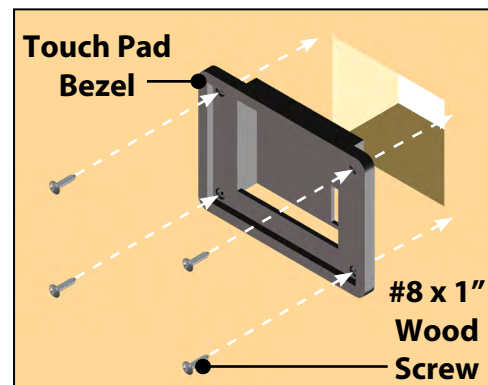

Fig.19
5. Insert the touch pad bezel into the cutout and attach it with four #8x1" wood screws with sufficient length to thread into the compartment wall (Fig. 19).